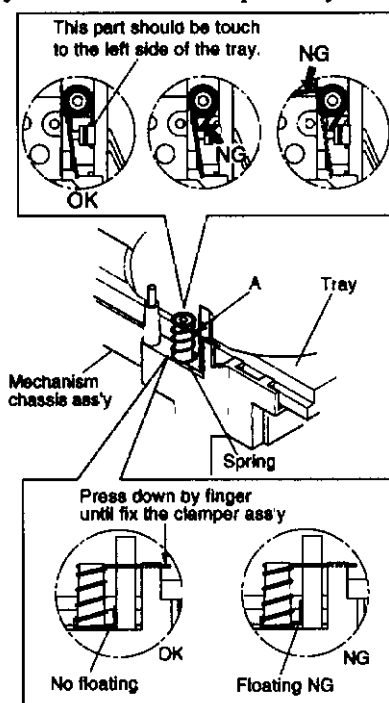

Fig.1-2
4. By referring to Fig 1-2, insert the spring normally and mount the clamper ass'y.